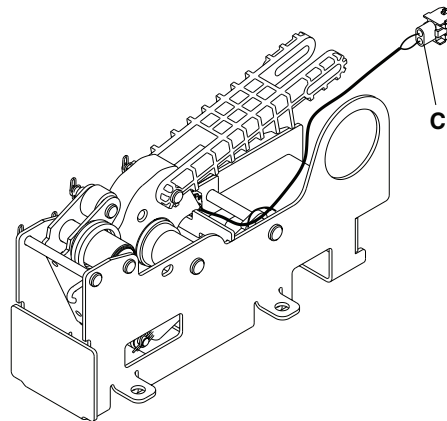

Figure 17 – Cam microswitch
7. Using a slotted screwdriver, loosen the two thumb screws (B) that secure the communication cable to the electrical enclosure assembly.
10. Disconnect the cam microswitch connection cable (C) from the cam microswitch (Figure 17).